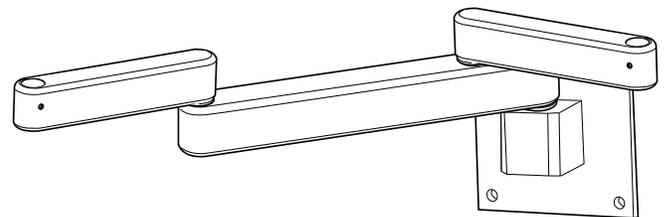

Figure 2
- 3. Install 8" and 6" rigid arms** (see Figure 2).